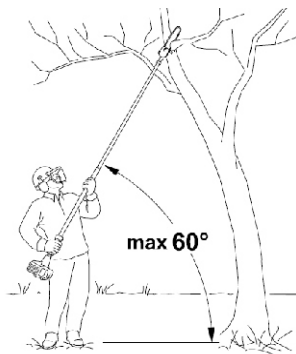

Fig. 13
c). Always hold the product at an angle of not more than 60° from the horizontal level. Otherwise safe operation is not possible. (See Fig. 13)